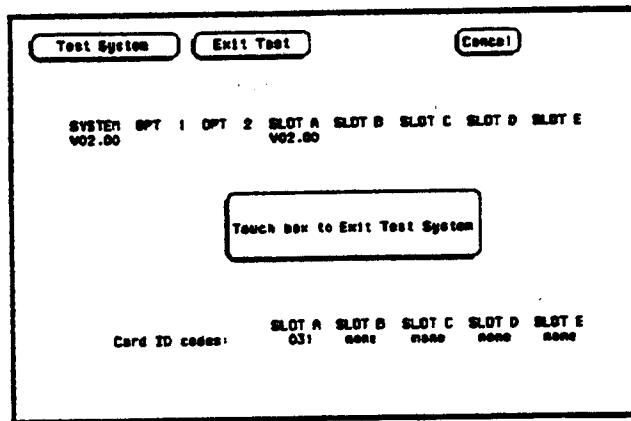

Figure 6-8. Exit Test System
l. Insert the Operating System disk and touch the box to **Exit Test System**. See figure 6-8.